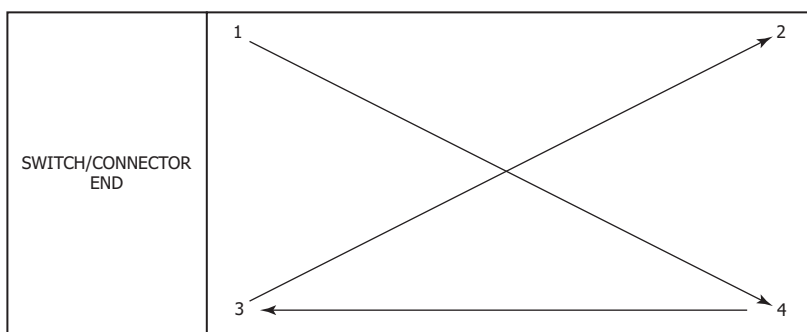

Figure 25. Battery Pack Screw Tightening Pattern
- (8) Fit the battery pack into place on the ELT, while dressing the wires away from the standoffs to avoid pinching the wires between the standoffs and battery pack.
- (9) Turn the battery pack bottom face up to facilitate installing the screws, while securely holding the ELT and battery pack together.
- (10) Install the four battery pack retaining screws about half way (i.e., leave them loose).
- (11) Tighten and torque the screws as shown in "Figure 25. Battery Pack Screw Tightening Pattern". Torque to 6-8 lb-in (68-90 N•cm).